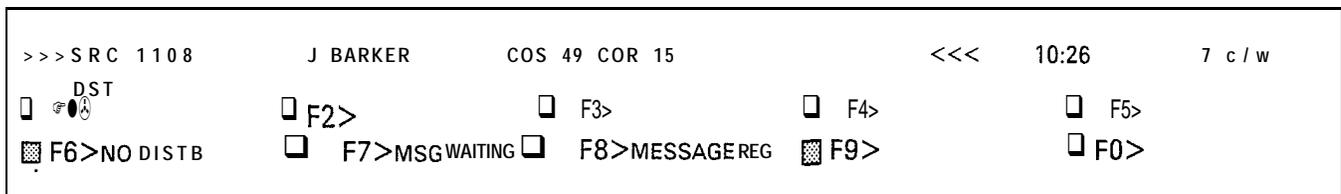

Figure 3-4 Answering a DIAL '0' Call
3.08 When a given call is answered the ANSWER LED will stop flashing and will be ON continuously. The display will change to provide the Attendant with information about the source (line 1) and the available functions which may be selected (**softkeys**). Figure 3-4 gives an example of an answered DIAL '0' call. The COS may also have a name (as programmed in Form 9) which will also be displayed on the console.
3.09 Line 1 of the display (Figure 3-4) gives a description of the caller. SRC (source) indicates that the call is incoming, 1108 is the extension number, J. BARKER is the caller's name, COS 49 is the Class Of Service of the caller and COR 15 is his Class Of Restriction. The delimiters (>>><<<) point to the actual caller the Attendant is on-line with (SRC or DST).